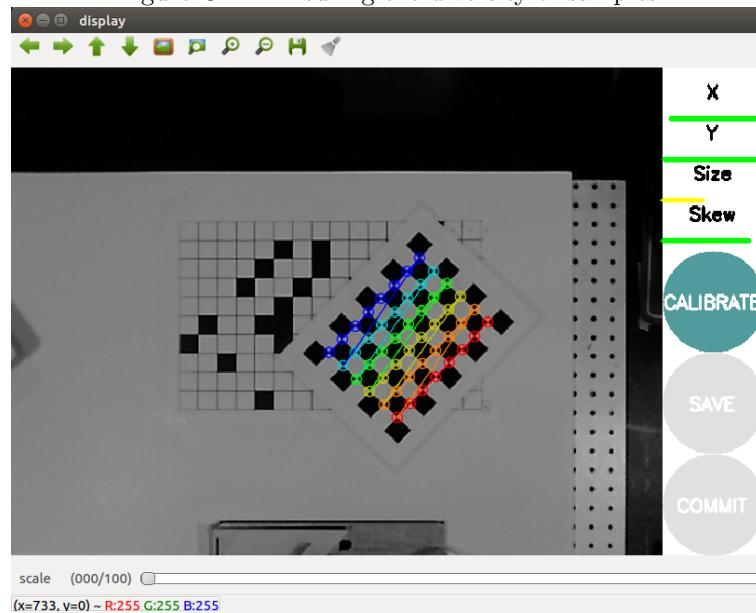

Figure C.3: Click “CALIBRATE” when it is active.
- Repeat the last step until the "CALIBRATE" button becomes active(Figure C.3).